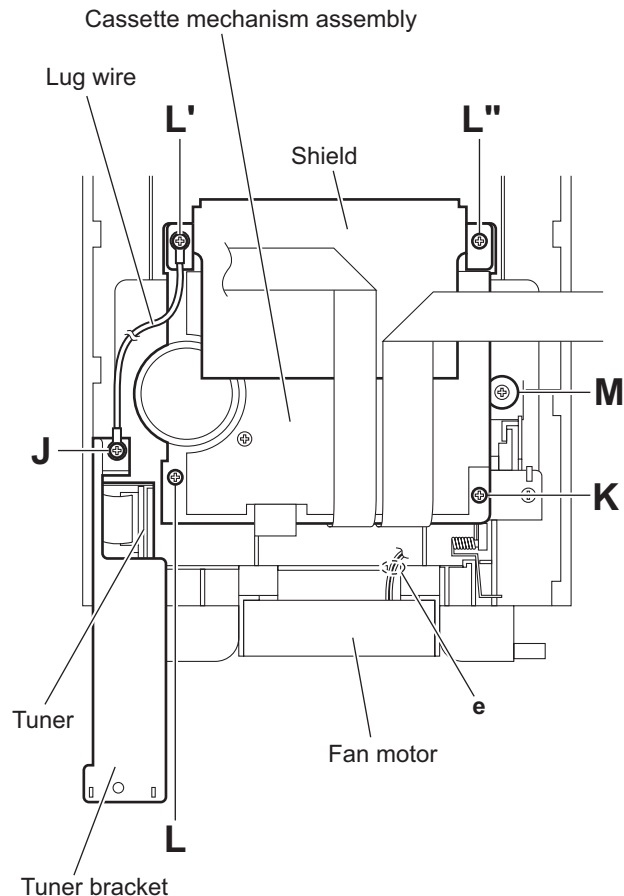

Fig.10
When attaching the fan motor, pass the wire through the slot **e**. (See Fig.10.)
- From the inside of the top cover assembly, remove the screw **J** attaching the tuner bracket. (See Fig.10.)
(See Fig.10)